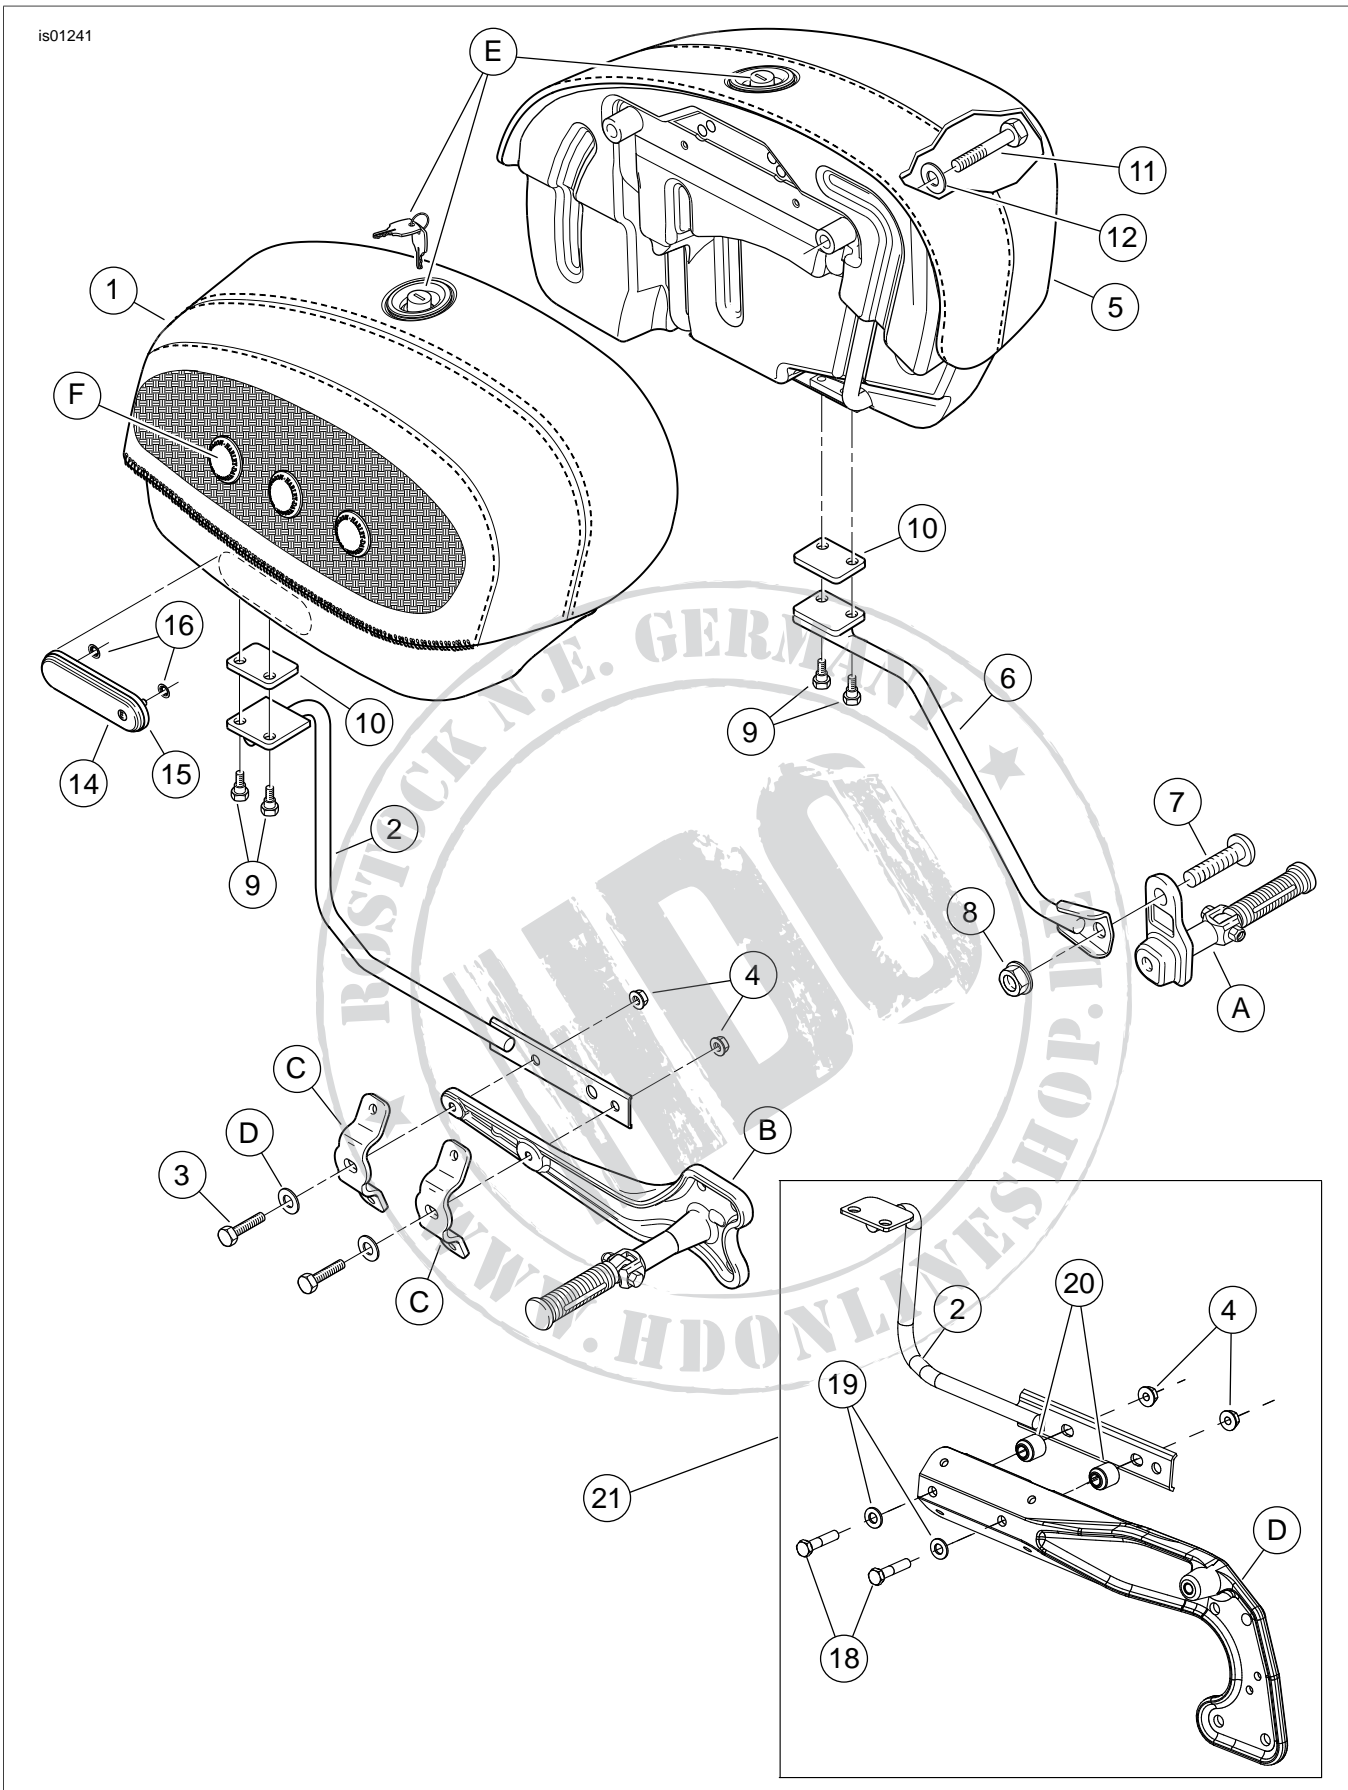

Figure 6. Service Parts, FLSTN Saddlebag Kit (2007 and later FLSTN shown in box)
12. See Figure 6. Obtain the following items from the kit:
- a. The lower right-side saddlebag support (2)
- b. Two 1-1/2 inch (38 mm) long hex head screws with lock patch (18)
- c. Two flat washers (19)
- d. Two smaller diameter flanged hex locknuts (4)
- e. Two spacers (20)
2. See Figure 6. Obtain the following items from the kit:
- b. two 2-1/4 in. (57 mm) long hex head screw (11), and
- c. two flat washers (12).
3. Place one of the washers (12) over the threads of one of the the new screws (11) from the kit. Insert the screw through one of the mounting holes in the saddlebag.
6. Obtain two shoulder bolts (9), and one isolator pad (10) from the kit.
9. Torque the hex head screws (11) that attach the saddlebag to the rear fender to 21-27 ft-lbs (28.5-36.6 Nm).
- b. two flat washers (12).
4. Place one of the washers (12) over the threads of one of the fender attaching screws. Insert the screw through one of the mounting holes in the saddlebag, and place the appropriate docking hardware (front or rear) removed earlier over the screw threads.
7. See Figure 6. Obtain two shoulder bolts (9), and one isolator pad (10) from the kit.
10. Torque the hex head screws (11) that attach the saddlebag to the rear fender to 21-27 ft-lbs (28.5-36.6 Nm).
12. See Figure 6. Check to ensure that the bolt (9) shoulders are not pinching the isolator pad (10) to the underside of the saddlebag, then tighten the bolts to 18-20 ft-lbs (24-27 Nm). Repeat for the opposite side of the bike.
13. Tighten the two 5/16-18 flanged hex lock nuts (4) holding the right-side lower saddlebag support (2) to 15-19 ft-lbs (20.3-25.8 Nm).
14. Tighten the 3/8-16 flanged hex lock nut (8) holding the left-side lower saddlebag support (6) to 15-19 ft-lbs (20-26 Nm).